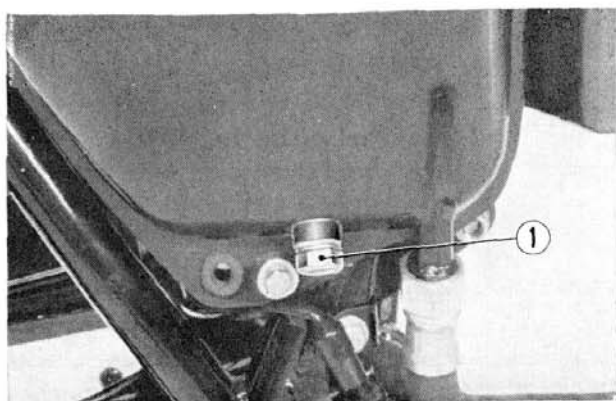

Fig. 19-1 ① Oil tank drain plug
(1) Take the oil tank cap off and remove the drain plugs from the oil tank and lower crankcase. (Fig. 19-1, 2) The oil will drain steadily. Operate the kick starter several times to drain any oil which may have been left within the pockets of the engine. After the oil has been thoroughly drained, reinstall and tighten the drain plugs.
(2) Add approximately **3.0 qts. (2.9 lit.) of good grade oil of MS, DG or DM, SAE 10 W-40 or 20 W-50** into the oil tank and start the engine. After making sure that the warning light is off, raise the engine rpm to **1000~1500** and run the engine for one or two minutes.